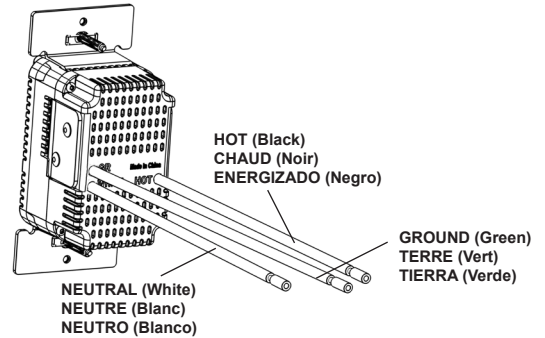

Figure 1/Illustration 1/Figura 1
- Wire the device per Figure 1.